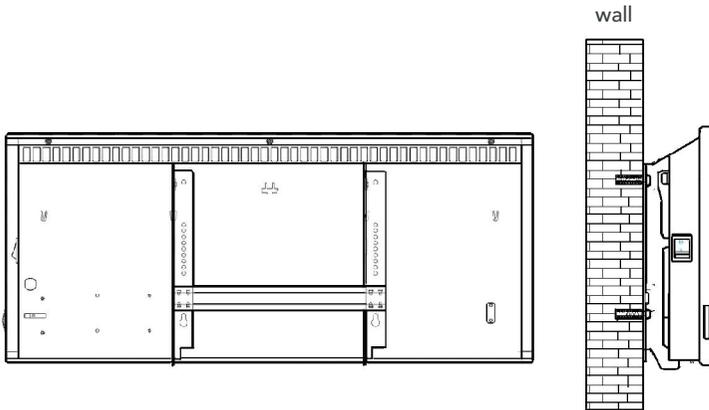

Fig. 6
- 5 Mount the heater on the fixture, ensuring that the fixture hooks slide into the slots at the bottom of the heater. Align the two fixture clips with the slots on the back of the heater. Press the heater securely into the fixture clips (Fig. 6).